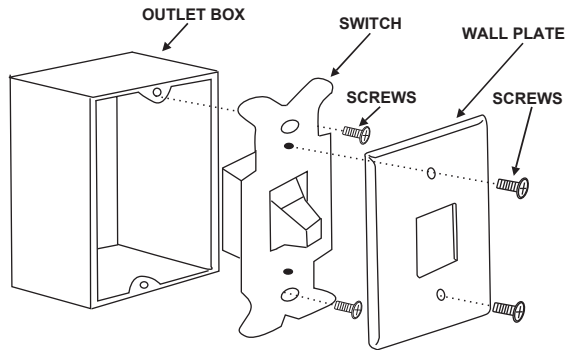

Fig. 14
Step 1. Disconnect the power and remove the existing wall plate and switch from the wall junction box. (Fig. 14)